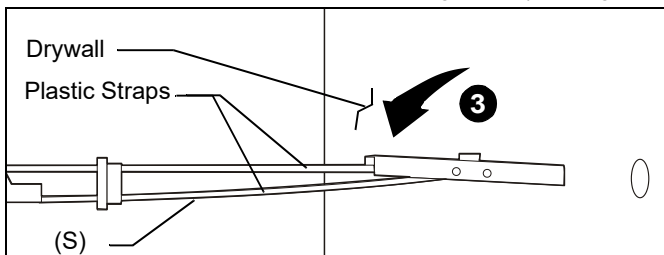

Figure 8
3. Hold metal channel on toggle anchor (S) flat alongside plastic straps and slide channel through hole (See Figure 8)